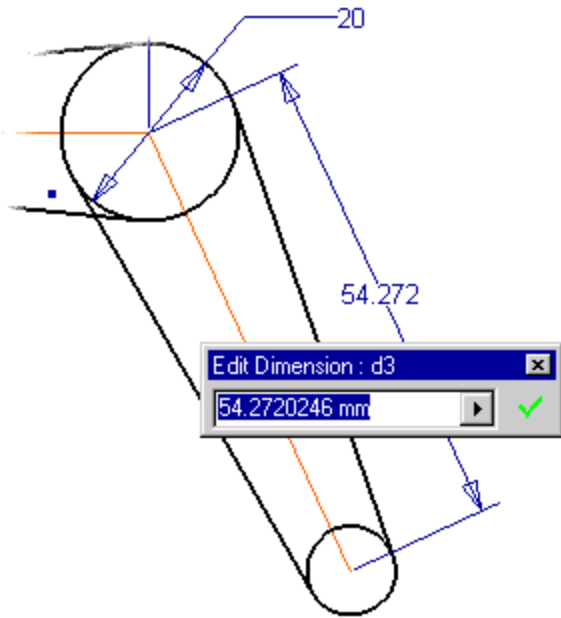

Figure 9: Edit dimension.
5. If the Edit Dimension edit box is not shown, click the dimension text to edit the dimension value (see Figure 9).